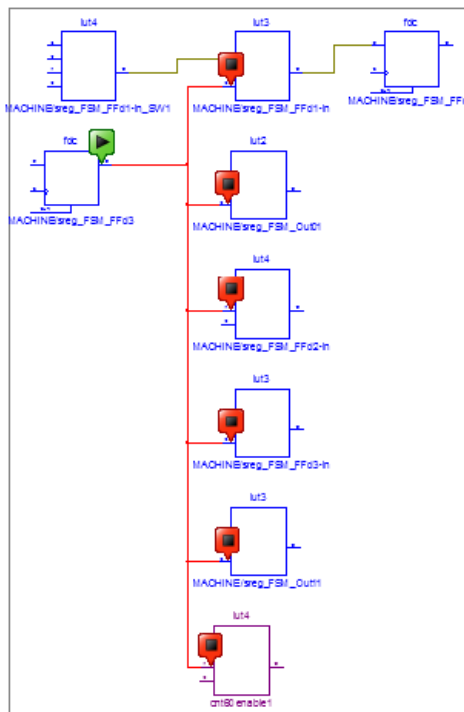

Figure 4-15: Sources and Destinations
2. Select any signal on the schematic to see its source and destinations. See Figure 4-15.